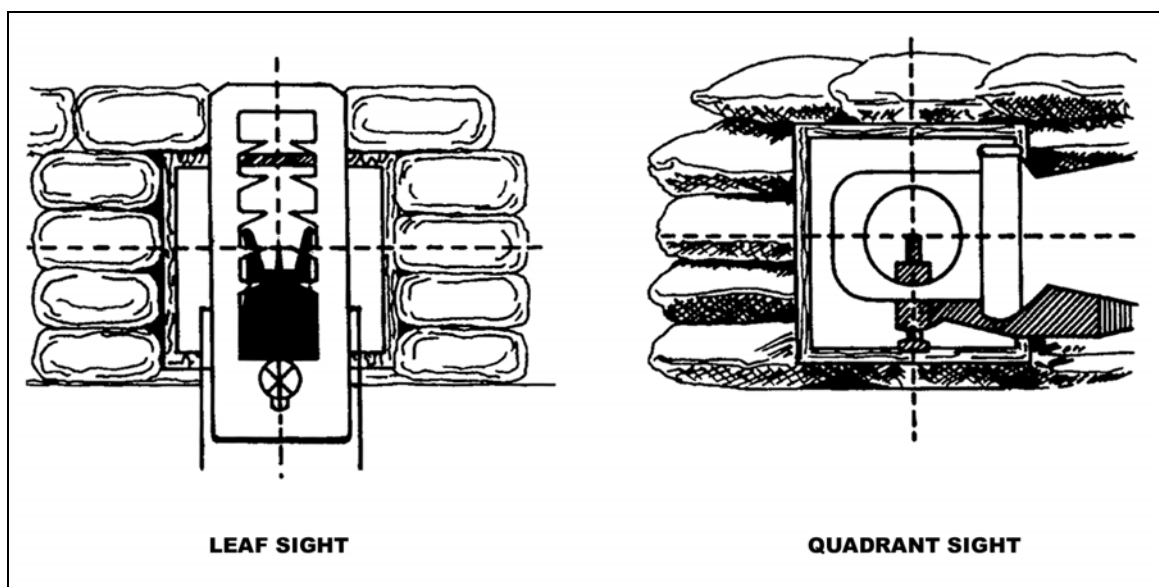

Figure 5-17. Sight pictures for leaf and quadrant sights.
(1) **Aligning Sight.** When using the leaf sight, align it with the front sight post of the M16. When using the quadrant sight, align its rear sight aperture with its front sight post. Picture a horizontal line through the center of the leaf sight or rear sight aperture: the top of the M16's front sight post should touch this line. Picture a vertical line through the center of the leaf sight or rear sight aperture: this line should vertically bisect the front sight post (Figure 5-17).